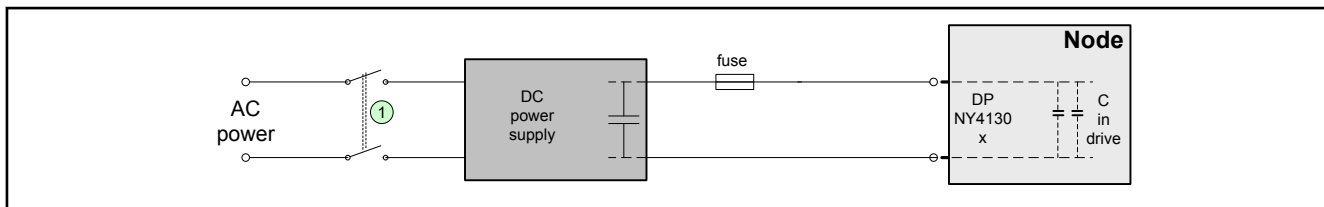

Fig. 10-4: Schematic of drive power supply to a node
The preferred method to switch on and off the drive power is by means of the mains switch as indicated by ① in fig. 10-4 "Schematic of drive power supply to a node" on page 108 to prevent destructive inrush currents.